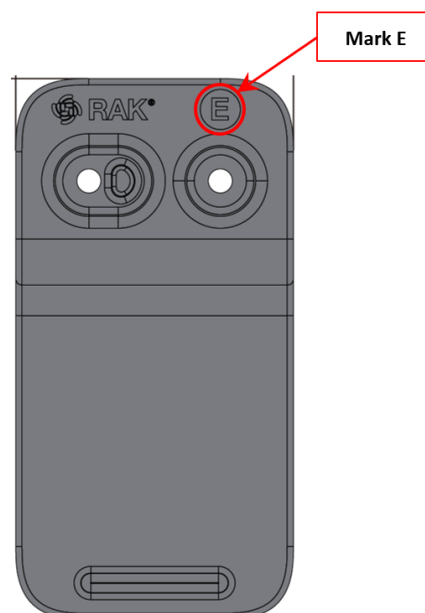

Figure 19: Mount accessory marked with letter E
1. For belt clip mount, use one (1) piece of mount accessory with an indicator marked with the letter **E**, as shown in **Figure 19**.